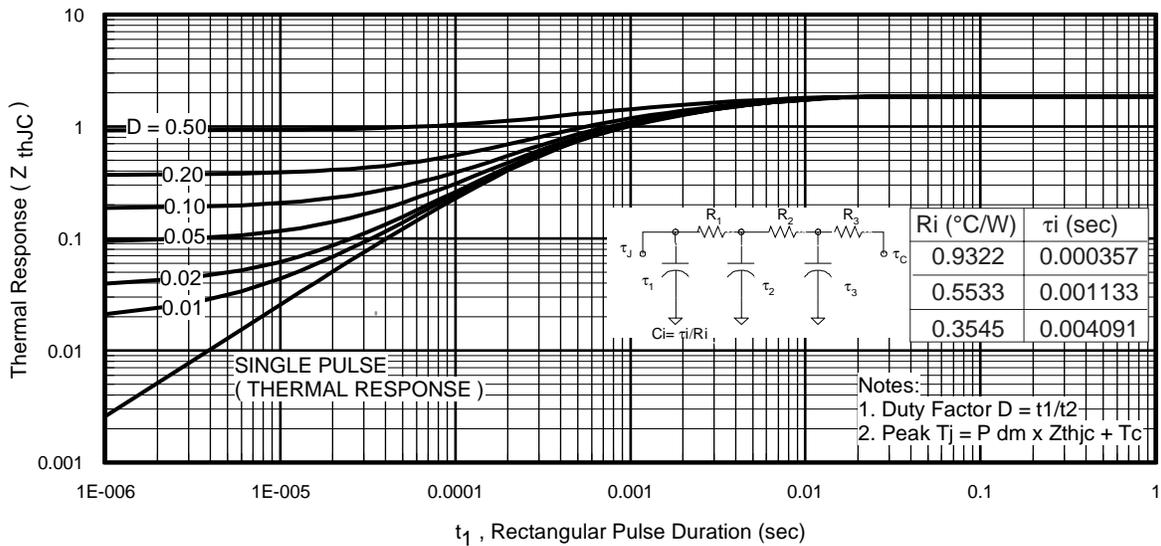
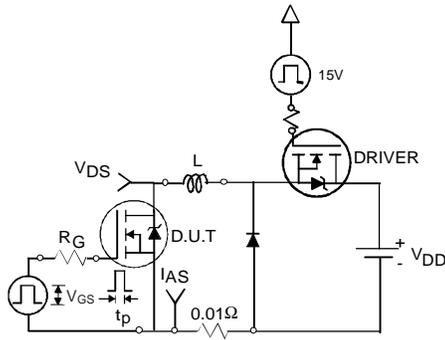

Fig 11. Maximum Effective Transient Thermal Impedance, Junction-to-Case
Fig 12a. Unclamped Inductive Test Circuit
- ① Repetitive rating; pulse width limited by max. junction temperature. (See fig. 11).
- ② Limited by T_{Jmax} ; starting $T_J = 25^\circ\text{C}$, $L = 0.13\text{mH}$, $R_G = 25\Omega$, $I_{AS} = 31A$, $V_{GS} = 10V$. Part not recommended for use above this value.
- ③ $I_{SD} \leq 31A$, $di/dt \leq 1070A/\mu s$, $V_{DD} \leq V_{(BR)DSS}$, $T_J \leq 175^\circ\text{C}$.
- ④ Pulse width $\leq 1.0\text{ms}$; duty cycle $\leq 2\%$.
- ⑤ $C_{oss \text{ eff.}}$ is a fixed capacitance that gives the same charging time as C_{oss} while V_{DS} is rising from 0 to 80% V_{DSS} .
- ⑥ Limited by T_{Jmax} , see Fig.12a, 12b, 15, 16 for typical repetitive avalanche performance.
- ⑦ This value determined from sample failure population. 100% tested to this value in production.
- ⑧ This is applied to D²Pak, when mounted on 1" square PCB (FR-4 or G-10 Material). For recommended footprint and soldering techniques refer to application note #AN-994.
3. Equation below based on circuit and waveforms shown in Figures 12a, 12b.
$Z_{thJC}(D, t_{av})$ = Transient thermal resistance, see figure 11)